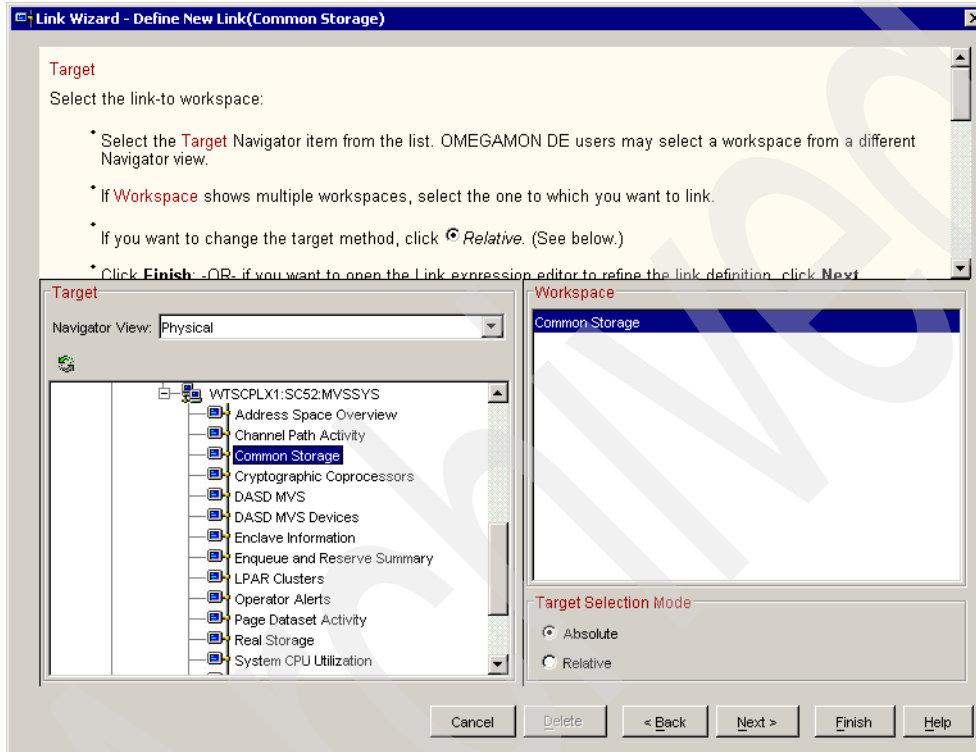

Figure 6-10 Specify target workspace
6. Select the target workspace from the dialog shown in Figure 6-10.